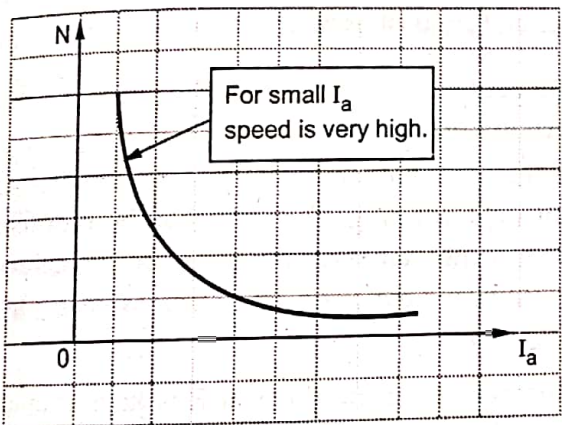

Fig. Q.48.2 N Vs I_a for series motor
• So speed-armature current characteristics is rectangular hyperbola type as shown in the Fig. Q.48.2.